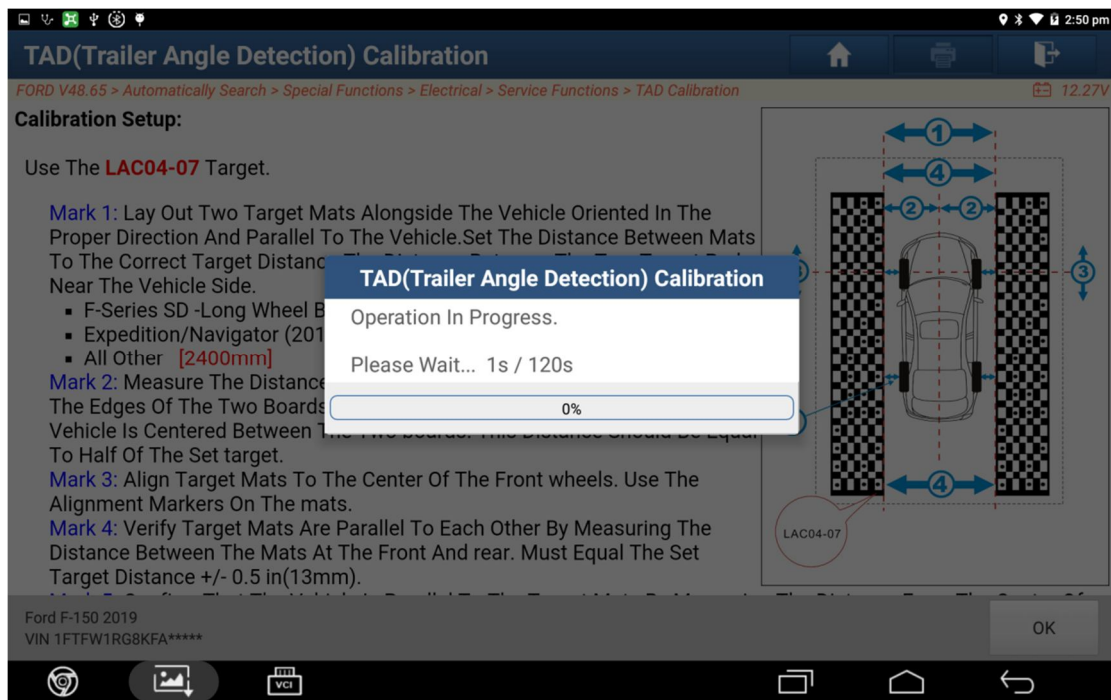

Figure 12
11. Prompt to start calibration (Figure 12).